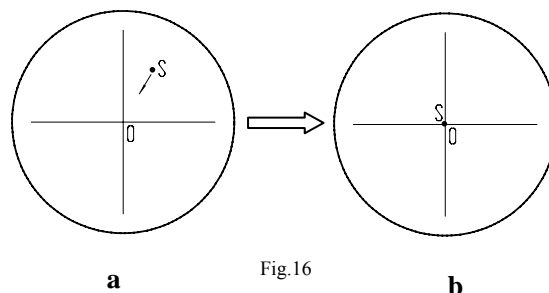

Fig.16
- (1) Loosen the fastening screws 1 of the photography output terminal, and remove the dust-proof cap.
- (2) Mount the photography device on the output terminal, then tighten the fastening screws again.
- (3) Turn the 10X objective into the light path.
- (4) Push the push-pull rod 4 in and focus to make micro-image clear.
- (5) Push the push-pull rod 4 out to see whether the image with photograthy clear. If unclear, adjust the fine focusing control knob to make the image clear.
- (6) If there is strict synchronization requirement for eyepieces and photographic images (consistency between the center and direction of the image), a synchronization adjustment will be necessary as follows:
- a. Push in push-pull rod, observe with eyepieces. Find a feature point in the field of view (a readily identifiable target, such as S point in Fig. 16-a), move it to the center of the field of view. If there is a division eyepiece, move the target to the reticle intersection of the division eyepiece, as shown in Fig. 16-b.